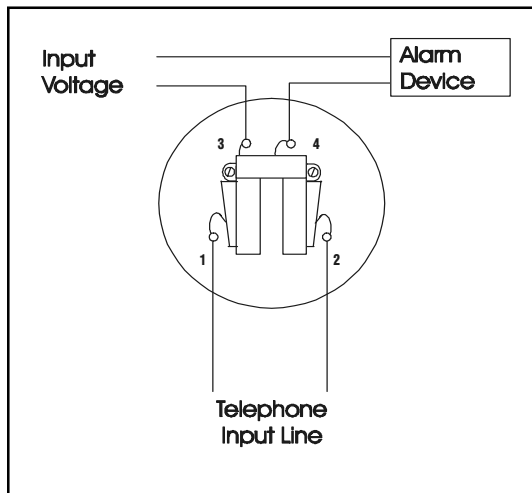

Figure 1. Wiring Diagram
- Wire telephone line to relay as shown in Figure 1.